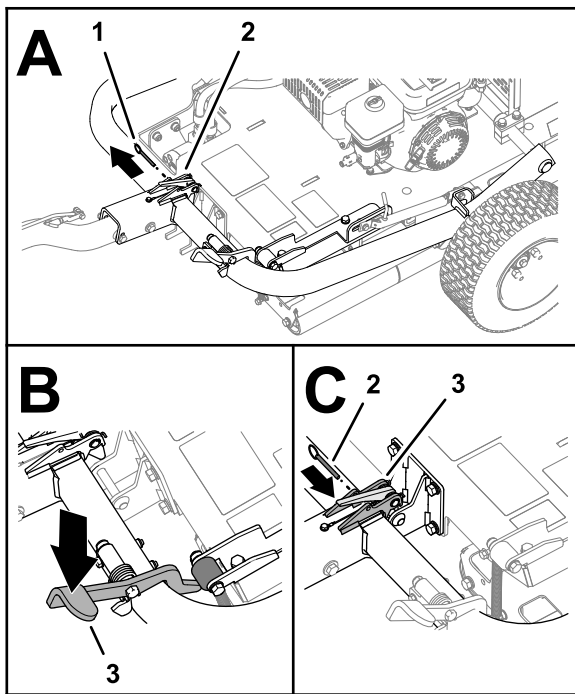

Figure 8
6. If installed, remove the locking pin from the latch (Figure 8).
7. Step on the hitch pedal until the hitch locks into place (Figure 8).
8. Insert the locking pin through the holes in the latch (Figure 8).